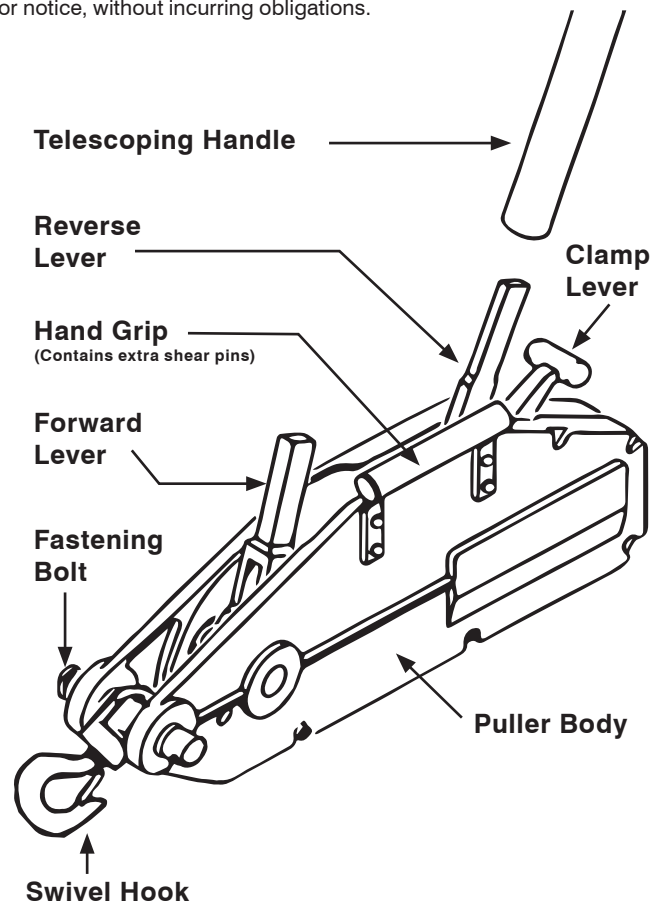

Figure 1.
**IMPORTANT:** A shear pin is installed in the forward lever. If the load being handled is too excessive for the puller's capacity, the shear pin is designed to break. If this occurs, **decrease the load or use other equipment of higher pulling capacity.** The broken shear pin is easily replaced using one of the spare shear pins which are found within the hand grip of the pullers. See Figure 1.